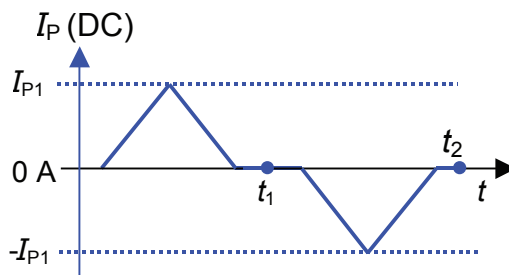

Figure 23: Current cycle used to measure magnetic and electrical offset (transducer supplied)
- Or in a known magnetization state, like in the current cycle shown in figure 23.
Using the current cycle shown in figure 23, the electrical offset is: